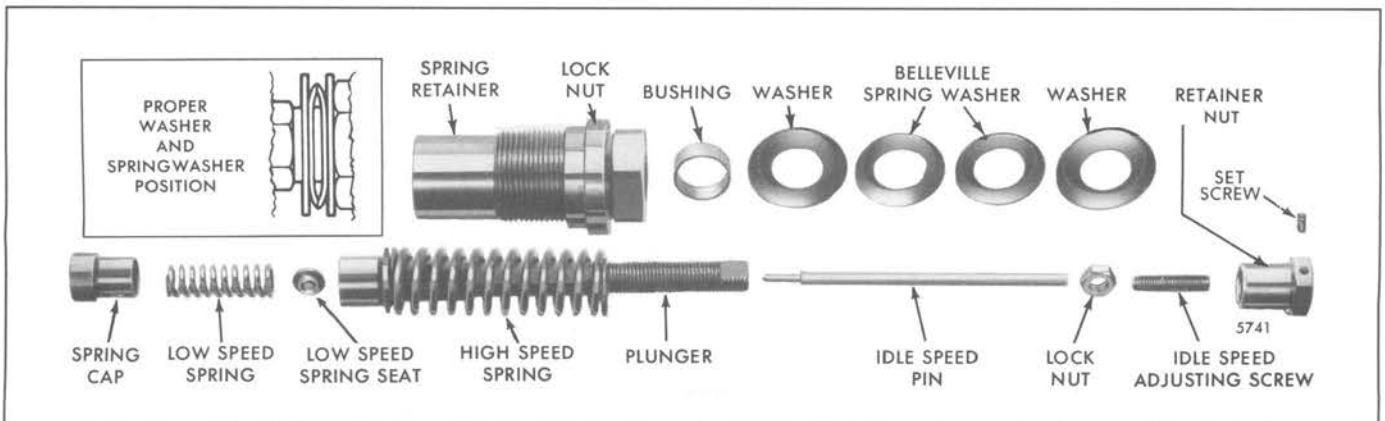

Fig. 14 – High and Low-Speed Springs and Plunger Details Including Belleville Washers (TTA Engines)
6. While holding the wedge in the bottom position, use a feeler gauge to measure the gap between the low speed spring cap and the high speed spring plunger (see Figs. 14 and 15). The gap should measure .003" – .019". Reset the gap to .008" if the measured gap is out of limits (see "GOVERNOR GAP ADJUSTMENT PROCEDURE" below).
Before adjusting the gap on "TT" governors, the Belleville spring retainer nut must be backed out until there is approximately .060" clearance between the washers and the retainer nut (see Fig. 14).
7. Use a feeler gauge to set the gap between the low speed spring cap and the high speed spring plunger at .008". Then tighten the governor gap adjusting screw lock nut (see Figs. 14 and 15).
1. Position the idle screw. On all Non-“TT” governors with a normal 1.00” long idle adjustment screw, the screw should be set so that it extends .325”. On all “TT” governors with a normal 1.00” long idle adjustment screw, the screw should be set to extend .400”. This dimension is measured from the face of the idle speed adjusting screw lock nut to the end of the idle speed adjusting screw with a tolerance of $\pm .015$ ” (see Fig. 14). For governors with a variable high-speed option, which use a 1.75” long idle adjustment screw, the screw should be set to extend 1.075” on all non-“TT” governors or 1.150” on all “TT” governors.
6. With the wedge in the bottom position, use a feeler gauge between the low speed spring cap and the high speed spring plunger to set the gap at .008". Then tighten the governor gap adjusting screw lock nut (see Figs. 14 and 15).